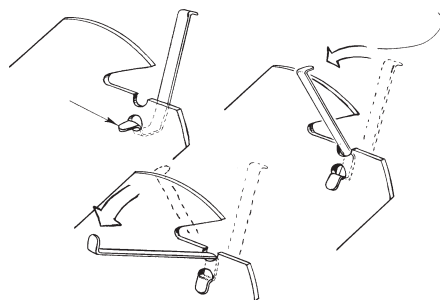

Figure 7-3 Install blade springs
5. Attach the blade springs to the beater plates as shown in figure 7-3.